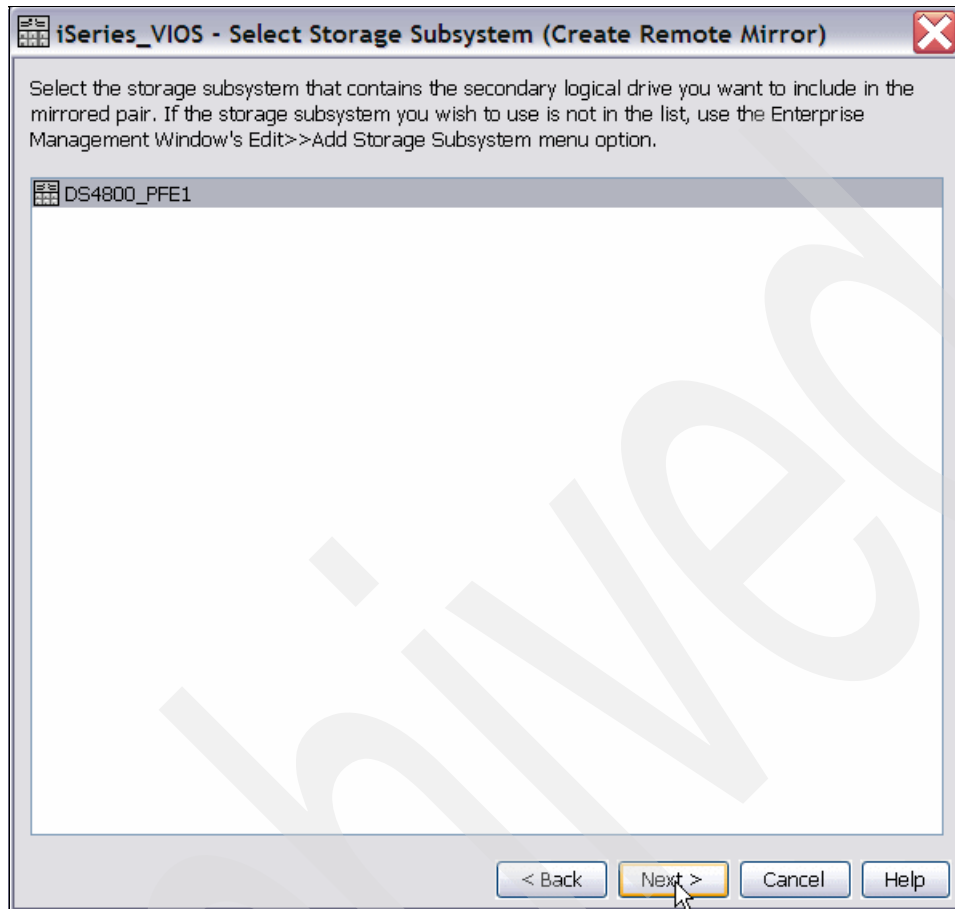

Figure 8-33 Specify secondary Storage System
6. On next wizard window select the Storage System to contain secondary logical drives, as shown in Figure 8-33.